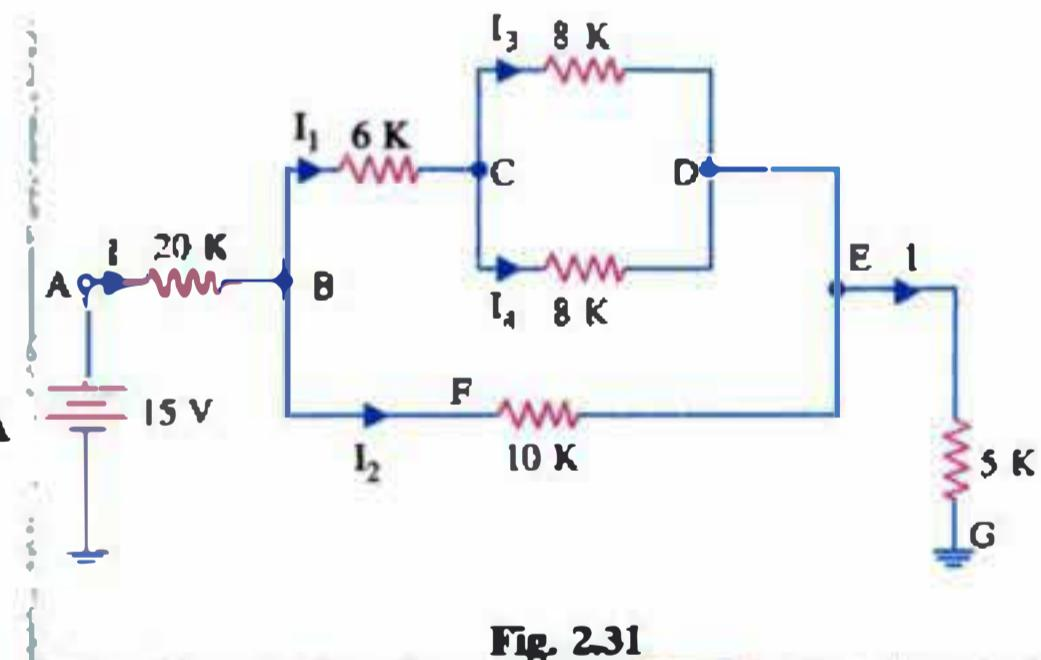

Fig. 2.31
**Example 2.8.** For the circuit shown in Fig. 2.31, compute